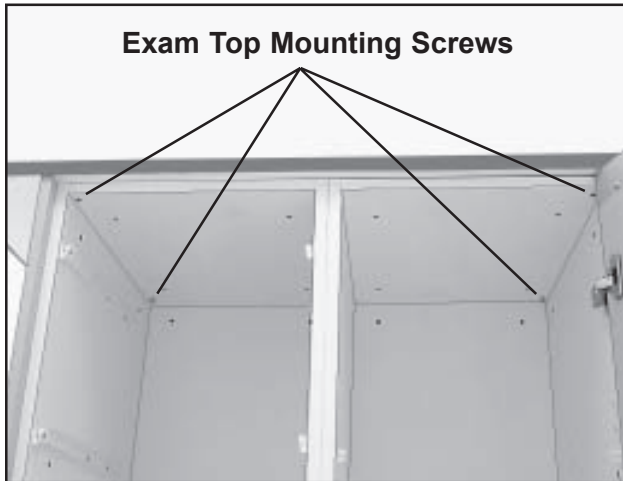

Figure 26. Interior View of Exam Table
2. With a Phillips screwdriver, remove the four exam top mounting screws (Figure 26).